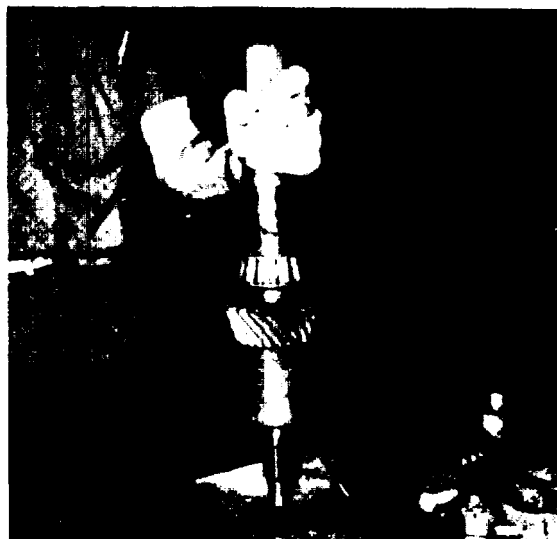

FIGURE 8-18.
a. Assemble the spacer, pinion and forward bearing onto the pinion shaft (see figure 8-18).